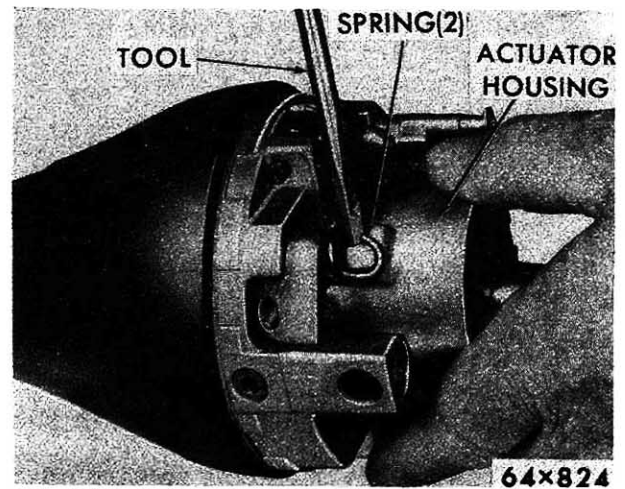

Fig. 24 - Removing the Tilt Return Spring
- (9) Temporarily install the release lever and raise the lever to allow the steering wheel to tilt to the full upward position to reduce the tension on the two return springs.
- (10) Unhook the outer ends of the return springs by inserting a small blade screwdriver through the upper coil and lift up. Use another screwdriver to unhook the spring (Fig. 24).